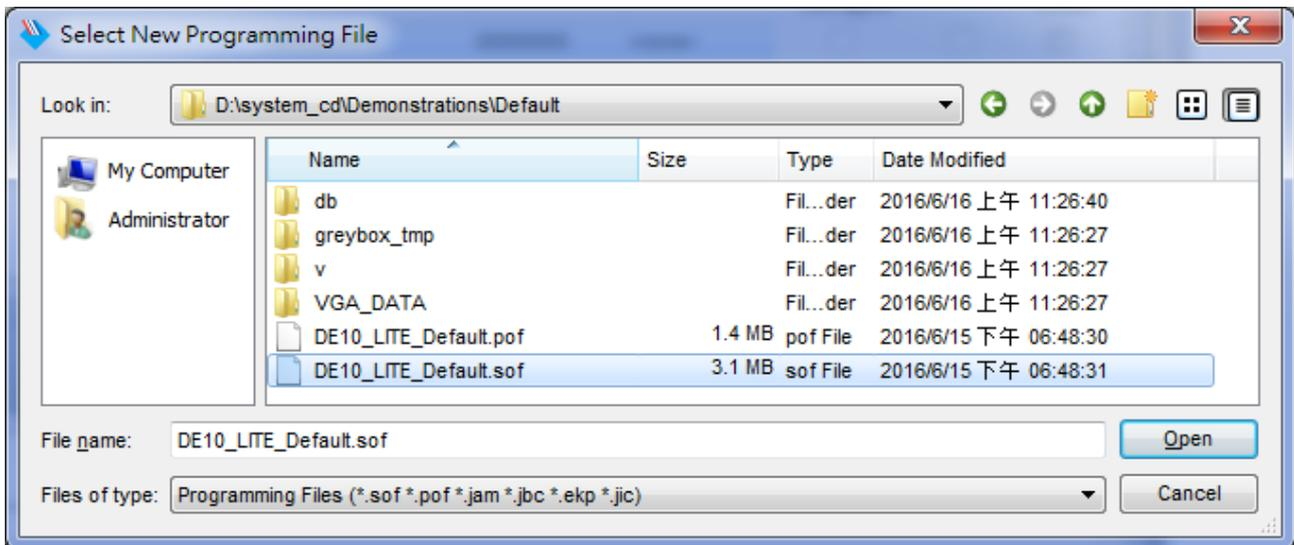

Figure 3-8 Select the .sof file to be programmed into the FPGA device
- Select the .sof file to be programmed, as shown in **Figure 3-8**.